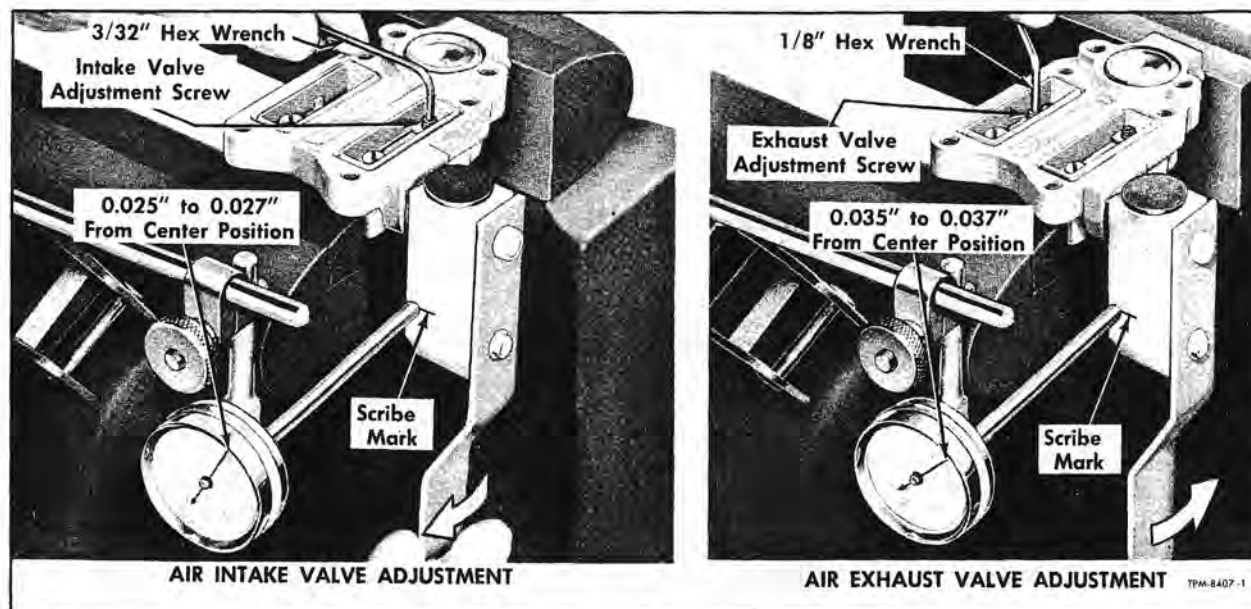

Figure 30—Method of Adjusting Air Valve Lever Gaps (Front Shown)
4. Starting at true center position, slowly move lever to where air intake valve just begins to open. Listen for escaping air. Note reading on dial at this point. Reading should be 0.025" to 0.027" from lever center position. On front valves, using a 3/32" hex wrench, adjust screw on intake valve lever (left view, fig. 30) until correct setting is obtained. On rear valves, bend lever to correct setting.
ed. Valve should open when overtravel lever is moved 0.035" to 0.037" from center position. On front valves, using a 1/8-inch hex wrench, adjust exhaust valve lever adjustment screw as shown in right view, figure 30 as required. On rear valves, bend lever to correct setting.
b. On front valves using a 3/32" hex wrench adjust screw on intake valve lever (left view, fig. 30) until specified adjustment is obtained. On rear valves, bend lever to correct setting.